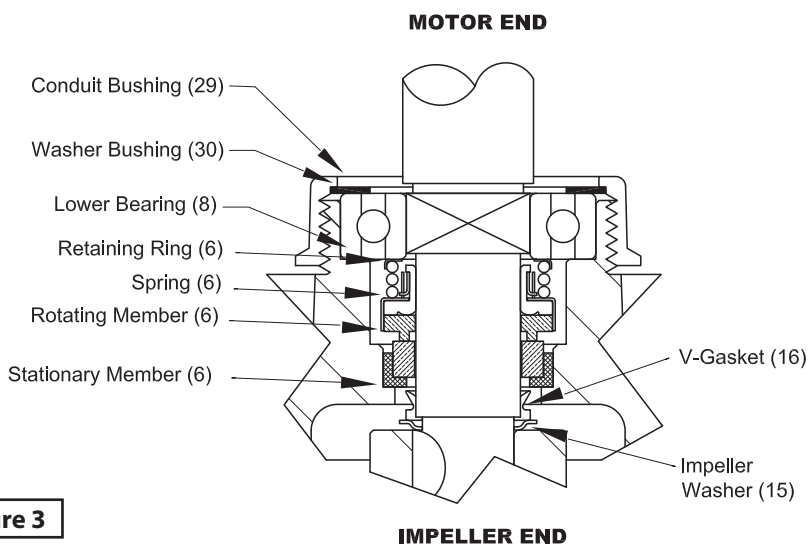

Figure 3
13. Unscrew conduit bushing (29) from seal plate (3) and lift motor rotor, shaft, bearing (8), rotating member of seal (6), washer (30) and conduit bushing (29) from seal plate (3). See Figure 3.
14. Remove seal parts (6) from shaft. Examine all seal parts, if seal faces show signs of wear, uneven wear pattern, chips or scratches replace entire seal. **DO NOT interchange seal components, replace the entire shaft seal (6).** If replacing seal, remove stationary from seal plate (3) by prying out with flat screwdriver.